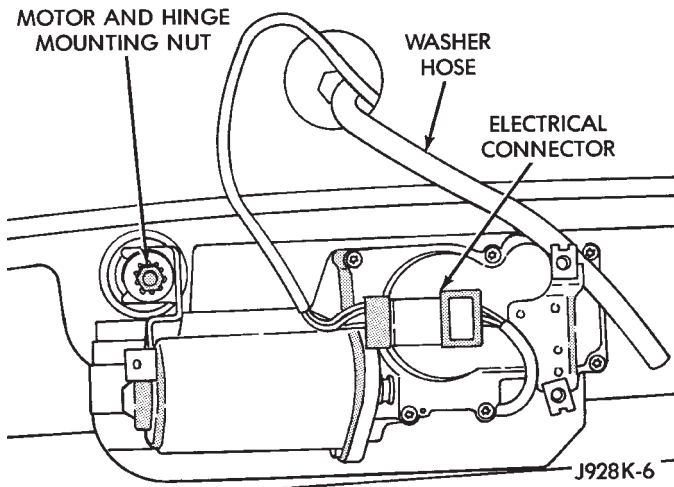

Fig. 15 Rear Wiper Motor
(4) Disconnect electrical connector (Fig. 15).
(5) Remove hinge nut holding motor to top.
(6) To install, reverse the removal procedures.